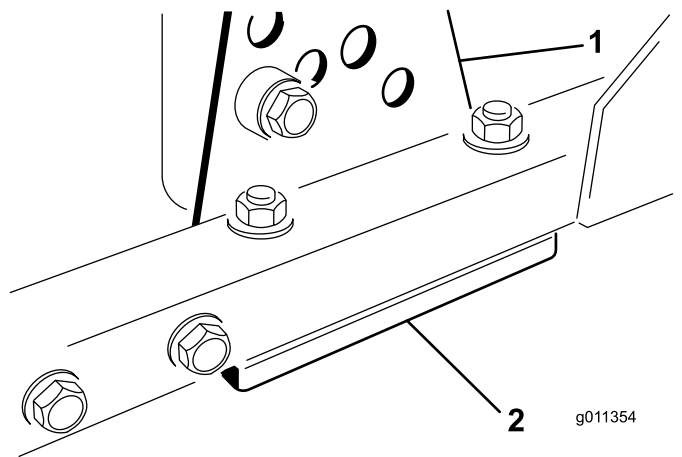

Figure 123
1. Remove the height-of-cut bracket, (front, left, or right) from the cutting-unit frame (Figure 123).
2. Adjust 1.5 mm (0.060 inch) shims and/or 0.7 mm (0.030 inch) shims between the cutting-unit frame and bracket to achieve the desired height setting (Figure 123).